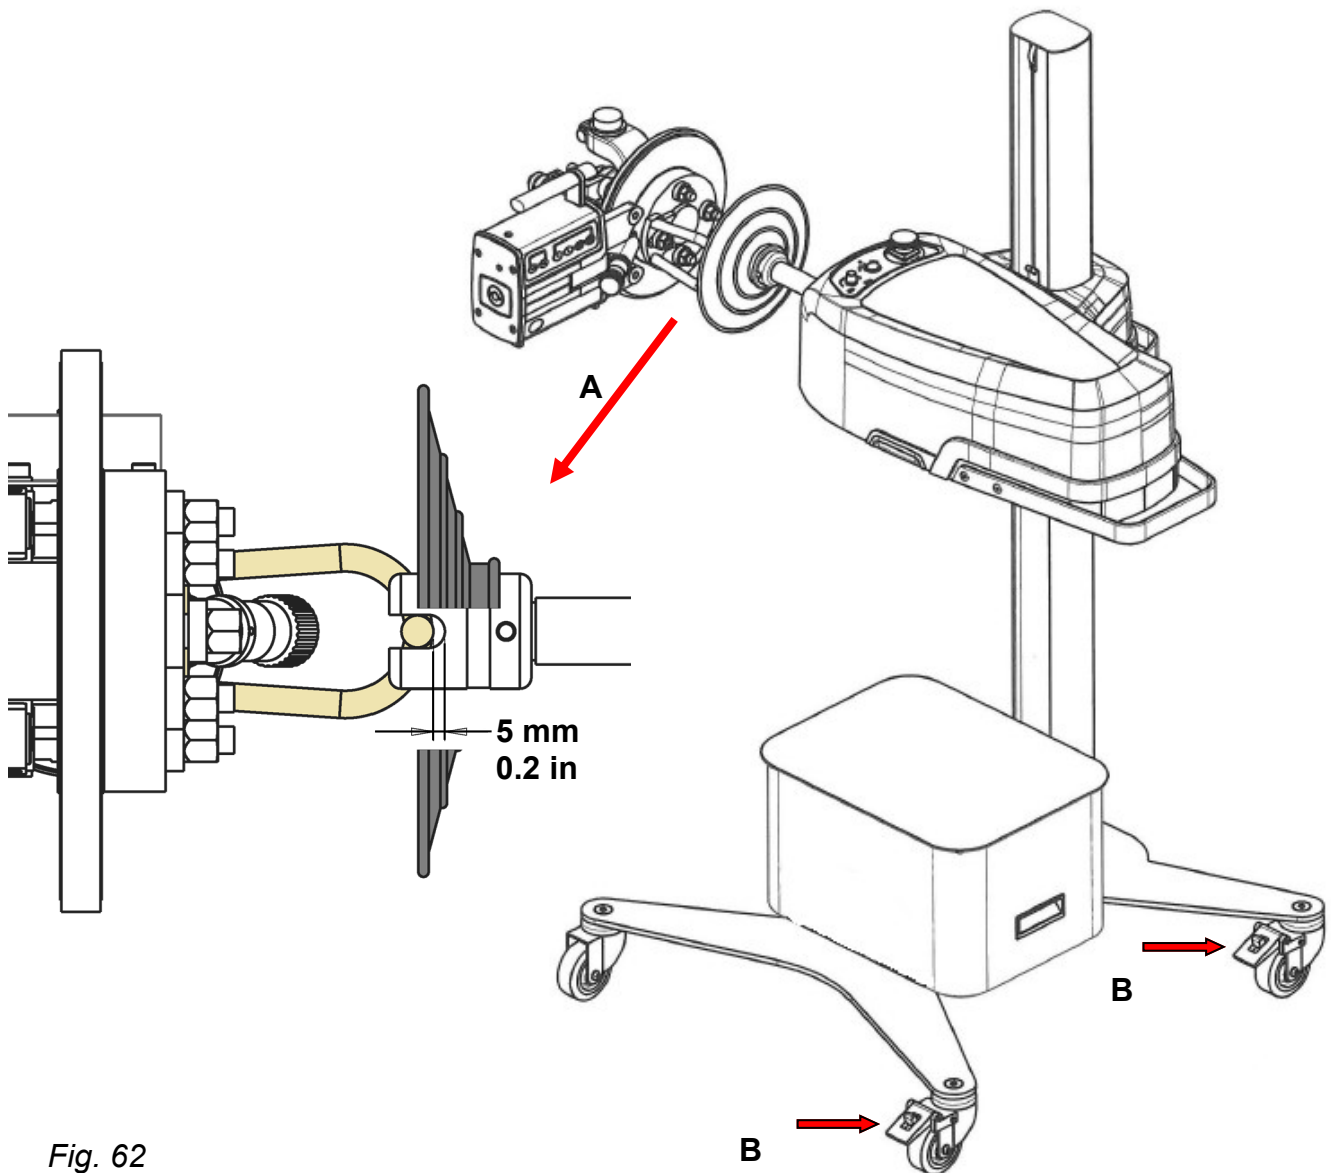

Fig. 62
3. Slide the drive yoke onto the drive adapter, leaving a 5 mm (0.2 inch) space, Fig. 62(A). Drive yoke must align with the center of the hub.
4. Lock the caster wheels to lock the stand in place, Fig. 62(B).